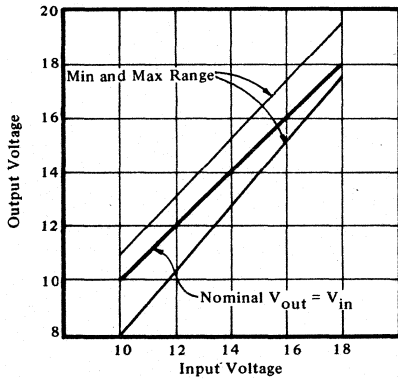

FIGURE 8. OUTPUT VOLTAGE ACCURACY VS INPUT VOLTAGE
Voltage Accuracy (5)	See Figure 8